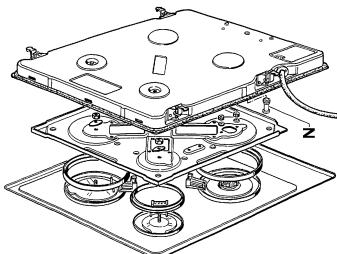

FIG. 9
For access to the various parts, remove the hotplate from the top of the cabinet. Then overturn it, unscrew screw "Z" and remove under part. (see fig. 9).
- a) Remove the hotplate from the top of the cabinet, overturn it, unscrew screw "Z" and remove under part (see fig. 9).